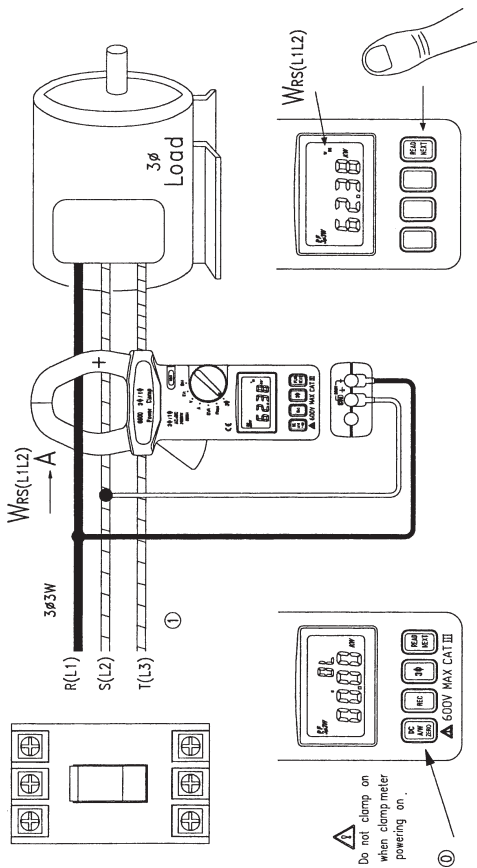

Fig.7
3.7.2. Firstly, measure W_{RS} (or W_{L1L2}) (refer to figure 7).